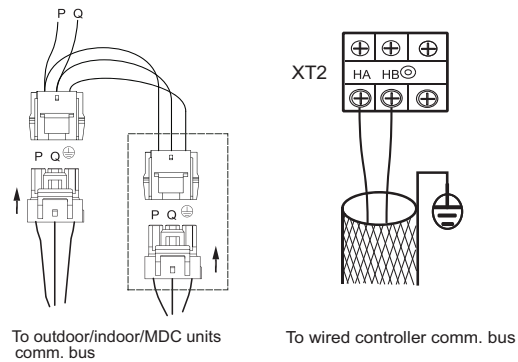

Fig. 25 —Communication Wire Connection
- See Fig. 25 for an example of communication wire connection.